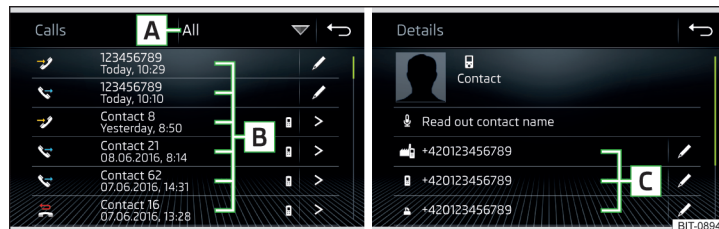

Fig. 195 Call history / Contact details
- ▶ In the *Telephone* main menu, tap on the function surface ☺ and a call list will be displayed » Fig. 195.
- > Display the contact details » Fig. 195